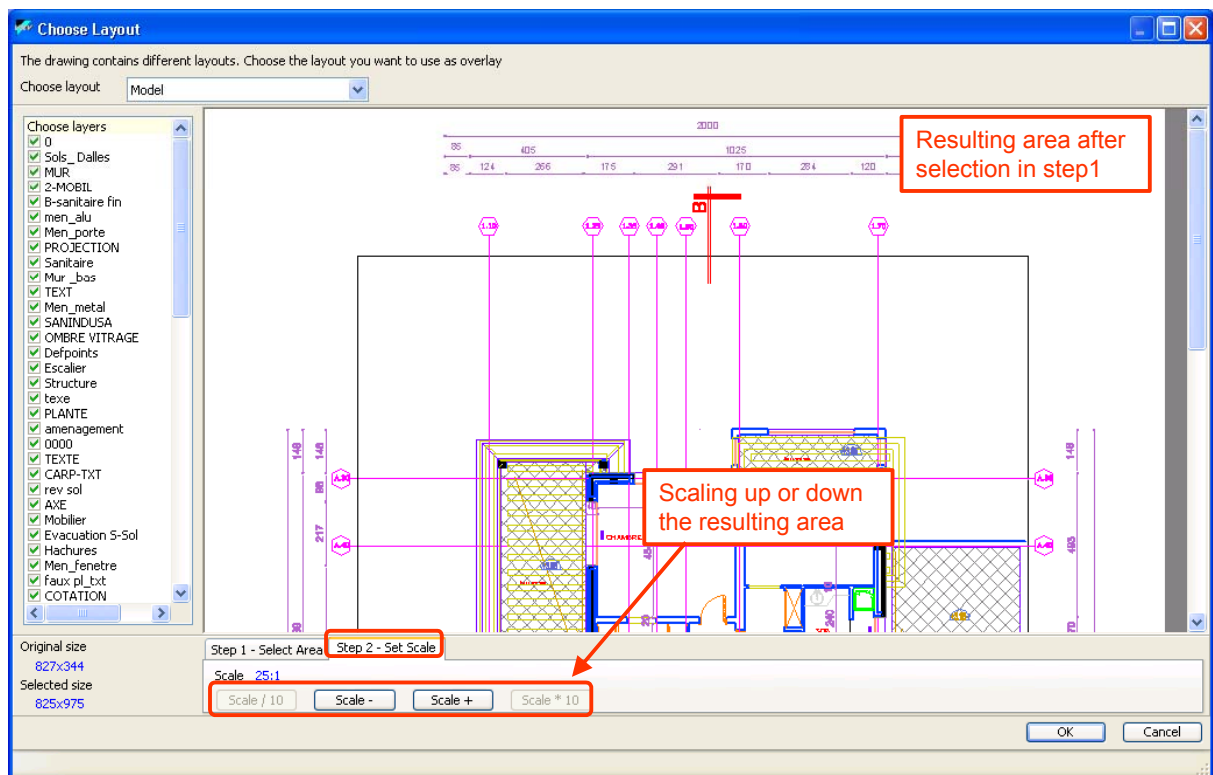

Figure 18: Scaling the selection before conversion to bitmap
- As soon as you have selected the drawing, VRVPro scales it up or down to a readable size and displays the result in a second tab of the AutoCAD selection window, as shown in Figure 18. VRVPro will convert this result into a bitmap, but first allows you to scale it up or down. The larger the scale, the larger the bitmap. The maximum size of the bitmap is a drawing of 6000 x 6000 pixels, which is more than 120Mbyte. Selecting a proper scale will keep the bitmap small enough to work swiftly and large enough to see all necessary details when zooming in the result.